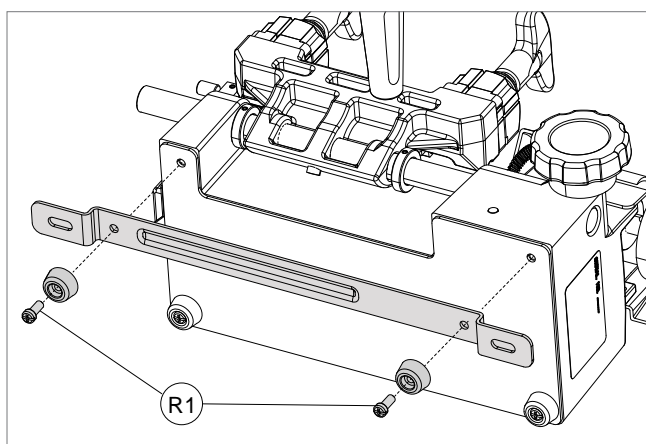

Fig. 12
- 2) Loosen and remove the 2 front screws (R1) with the feet (Fig. 12).